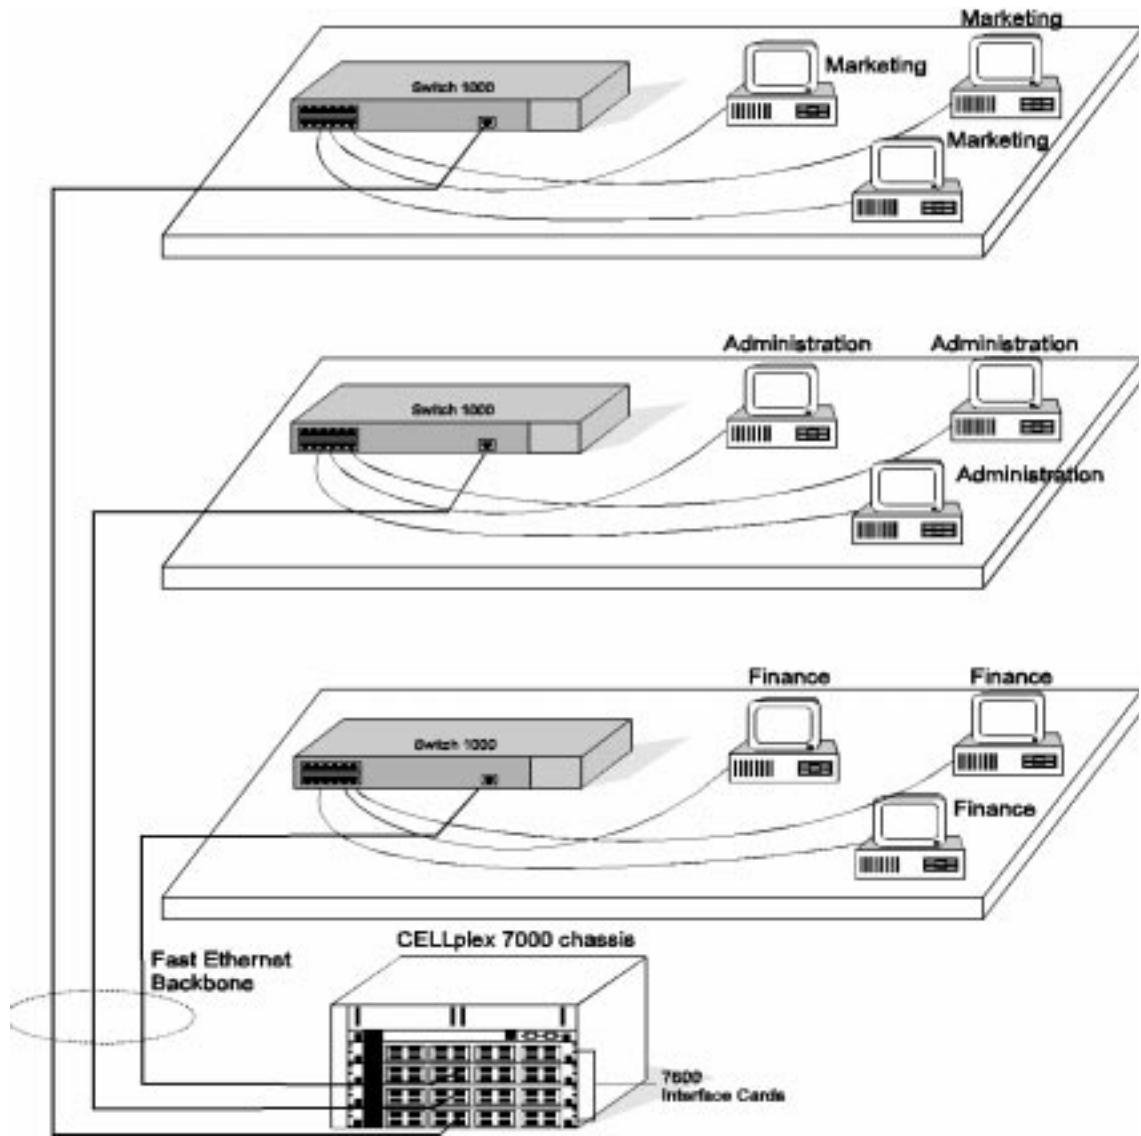

Figure 1-5 Fast Ethernet backbone
- Enables Fast Ethernet backbones to downlink from the Super-Stack II Switch 1000 on the desktop to the Fast Ethernet in the basement (see Figure 1-5).
Figure 1-5 shows the 7600 Card used in a Fast Ethernet backbone where the host CELLplex 7000 is located in the data center and each floor is served by a Super-Stack II Switch 1000. The Fast Ethernet downlink from the Switch 1000 units connect to the Fast Ethernet ports of the 7600 Card. Each 7600 Card can handle 16 Switch 1000 units.